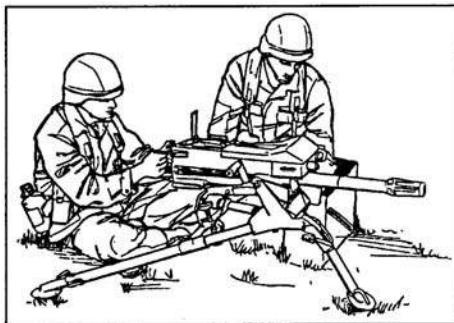

Figure 071-030-0004-2. Seated firing position, legs crossed
- (3) Legs braced. Extend your legs, brace them on the trail legs of the tripod, and place your elbows on the inside of your thighs for support (figure 071-030-0004-3).